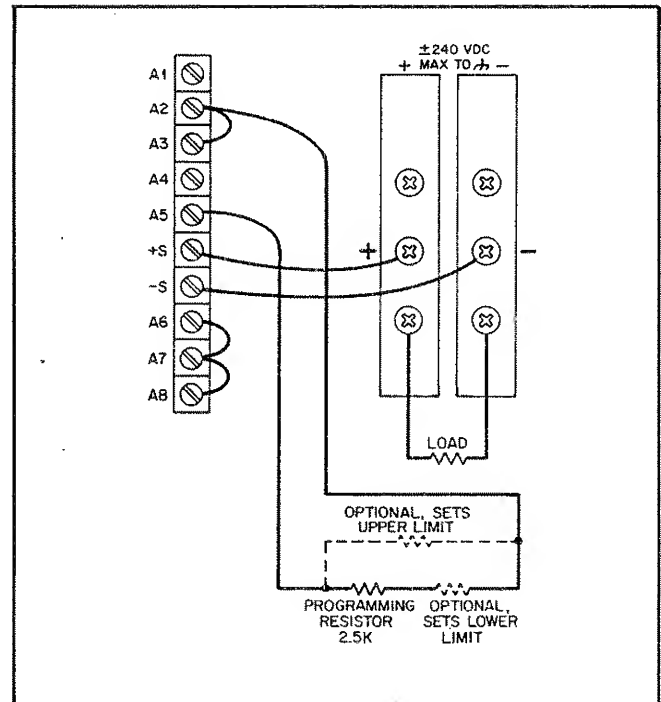

Figure 3-10. Resistance Programming of Output Current
**3-57 Resistance Programming of Output Current.** The rear-panel connections shown in Figure 3-10 allow the output current to be varied by using an external resistor to program the supply. The discussion in Paragraphs 3-51 and 3-52 for constant voltage operation also applies for constant current operation.
*If the programming terminals (A2 to A5) become open circuited during resistance programming, the output current will tend to rise above rating. The supply will not be damaged if this occurs, but the user's load may be damaged. If there is a possibility that the programming leads may be opened, it is suggested that the optional resistor be connected directly across terminals A5 and A2, as shown in Figure 3-10. The value of this resistor should be selected to limit the output current to the maximum that the load can handle without damage. For example, if the load can handle 25 amperes (one-half of full scale), a 1250 ohm resistor should be connected from A5 to A2. Remember that the resistance value actually programming the supply is the parallel combination of the programming resistor and the optional resistor.*